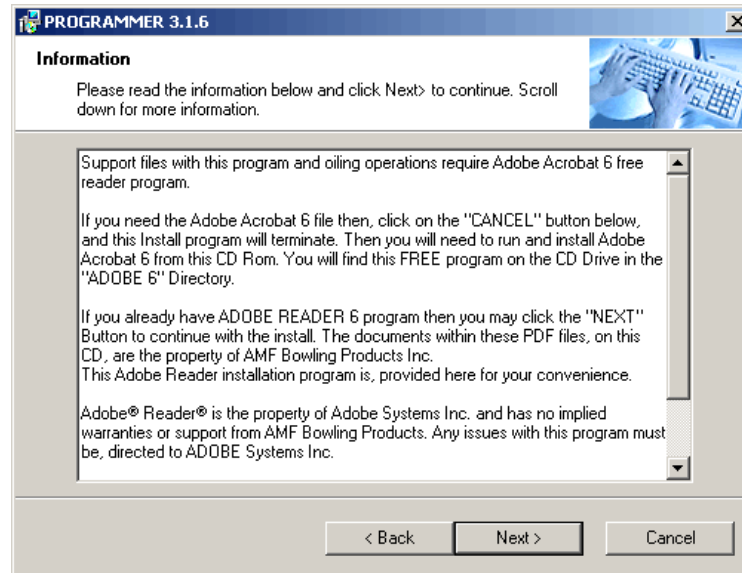

Figure 1-4
- The next screen displays the information for insuring that Adobe Acrobat Reader is installed on your computer. If you have version 4.0 or lower currently installed, please install the free Reader available on the cd. **Figure 1-4** shows the information about Adobe Acrobat Reader. Click on the <Next> button.